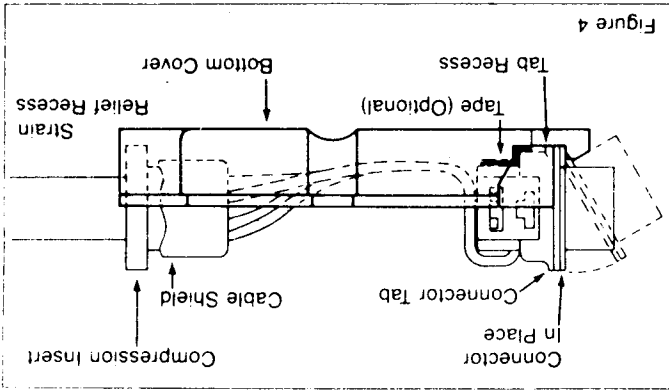

Figure 4
To prevent shorting of cable ends during installation of shell, use care not to allow cable to protrude beyond the edge of connector cover. For increased protection, position a thin film tape (such as 3M #56) over the exposed conductors. (See Figure 4.)
To prevent shorting of cable ends during installation of shell, use care not to allow cable to protrude beyond the edge of connector cover. For increased protection, position a thin film tape (such as 3M #56) over the exposed conductors. (See Fig. 4.)
- 3 a. Assemble connector and shell. Place the connector and cable into the bottom shell. Hold the connector at an angle as shown in Figure 4. Press the tabs of the connector into the recess of the bottom cover and rock into place until a latching click is felt. Repeat for the top cover.
- Important:** Form the cable wires smoothly over the connector as shown in Figures 4 & 5.